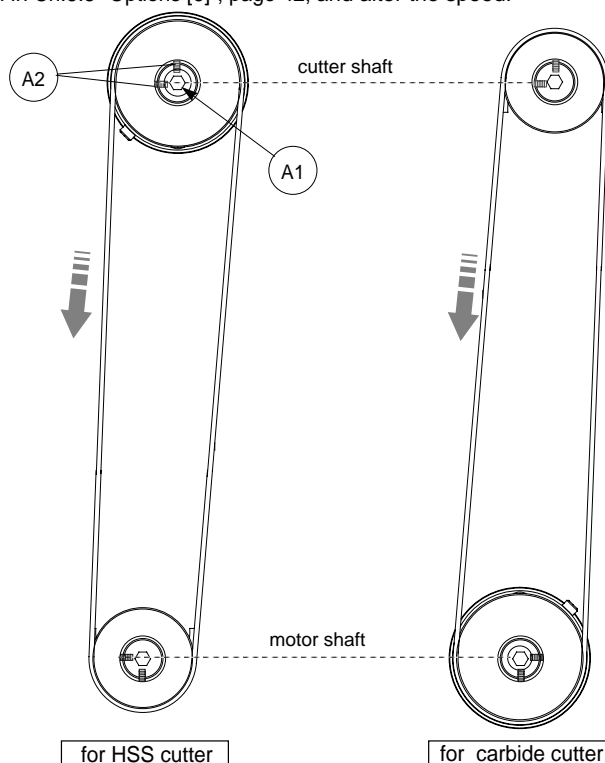

Fig. 19
- 5) fit the cutter shaft locking rod and use the allen key provided to loosen the screw (A1) and grub screws (A2) on the pulley (fig. 19).